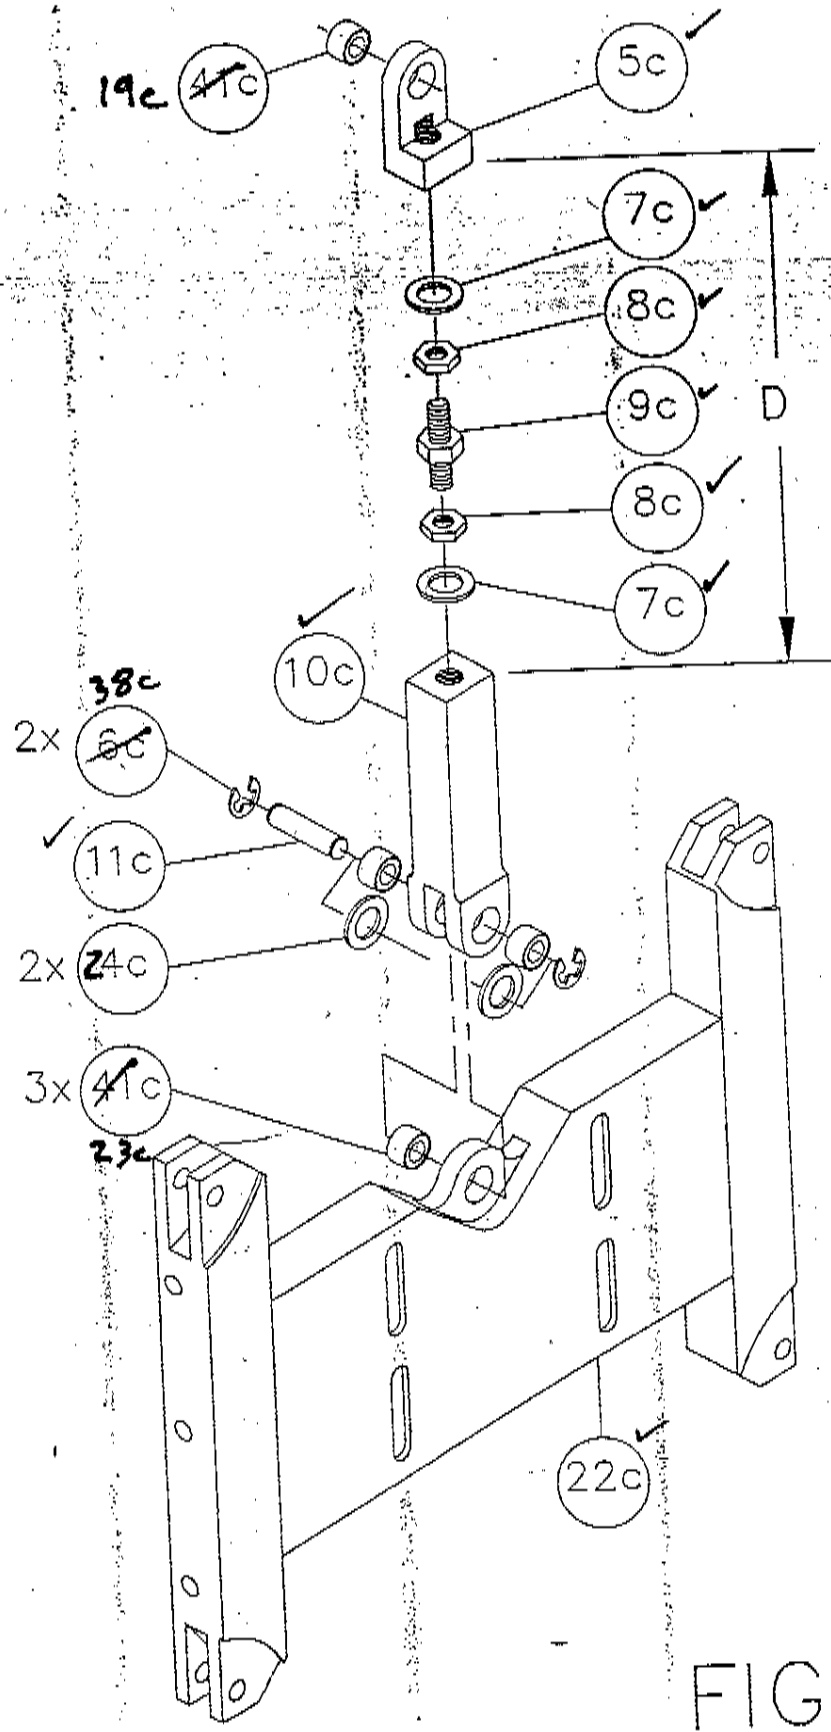

FIGURE 1
Assembly shown in Figure 1.
- 1.9.3. Begin adjustment of the linkage by setting the T-Bolt length (dimension "D" on Figure 1) to the dimension listed in Chart 1 according to the valve size. Further adjustment may be required after assembling the valve.